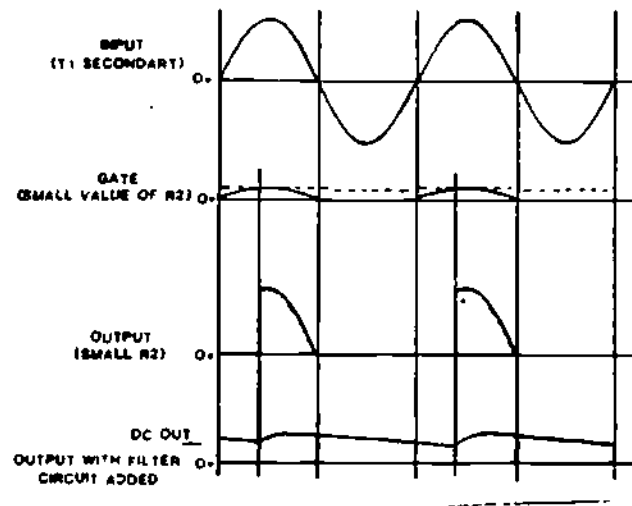

Figure 11
16. The waveforms shown in Figure 11 indicates what happens when the value of R_2 is reduced.